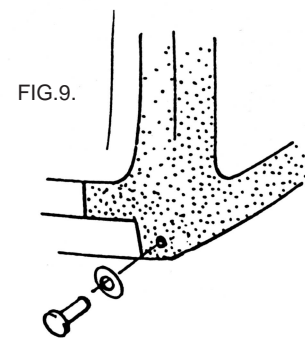

FIG.9.
- Op.14 The canvas should now be fitted along the sides of the body, see page 13.12 of O/M. Ensuring that the rear corners of the canvas are level with the rear edges of the rear plastic channel, drill a 2mm hole through the canvas and small downward finger on the rear plastic channel and secure using M6 cup washers and No.6 x 1/2" S/Steel self tapping screw. FIG.9.